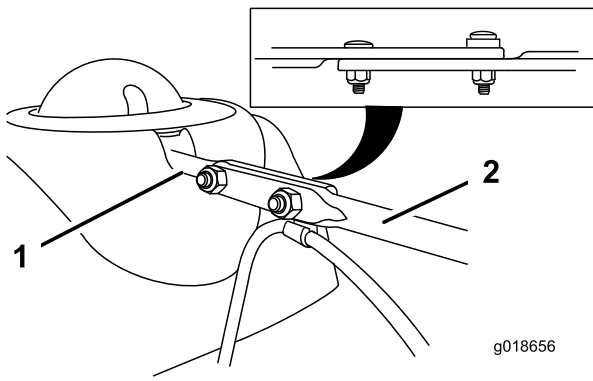

Figure 15
- 3. Align the flattened back end of the long chute control rod with the flattened front end of the short rod that extends from the control panel so that they nest together (Figure 15).